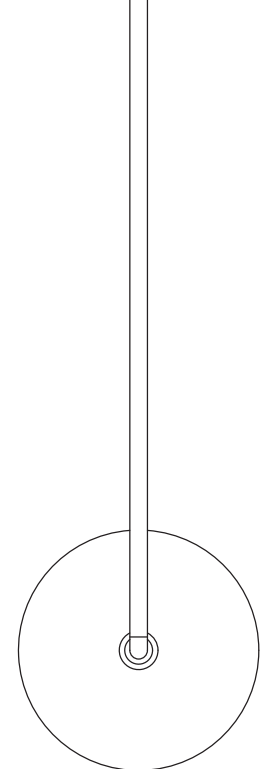

FIGURE 4: FLOAT ARM TEMPLATE
Step 3: Scuff ALL aluminum mating surfaces; every place that a part contacts another part inside and outside of the fuel tank as shown in Figure 2. There are only two exceptions. The first exception is the mating surfaces of the T-01228 (see Page 26iS/U-01). The second exception is the mating surface of the T-1209 with the T-01221A (see Figure 4); future removal of the T-1209 is made easier if it is not aggressively bonded to the T-01221A.
Scuff the surface of the T-1209 that mates with the IE F-385B as shown in Figure 4.